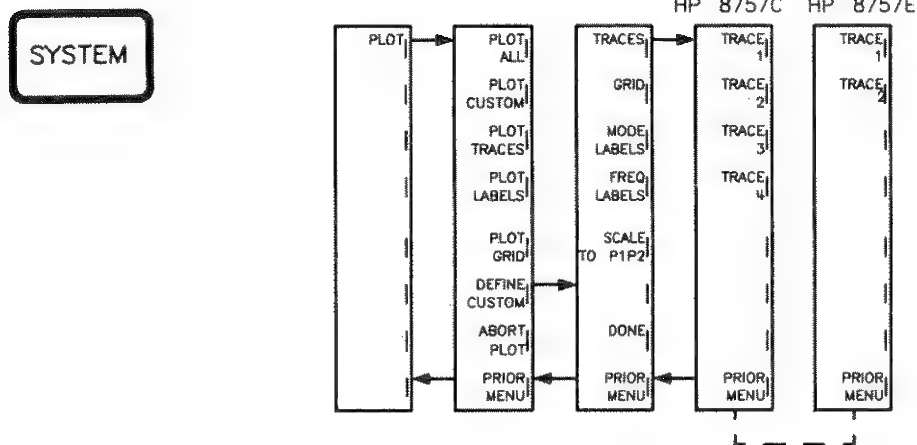

Figure 20. Plot Menus
**[PLOT]** presents the first plot menu. The plot menus are shown in figure 20. These menus let you custom-define and initiate plots on a plotter on the 8757 system interface. The analyzer is designed to be compatible with the HP 7440A, 7550A, and 7475A Plotters. Other Hewlett-Packard plotters not listed here may also be compatible.